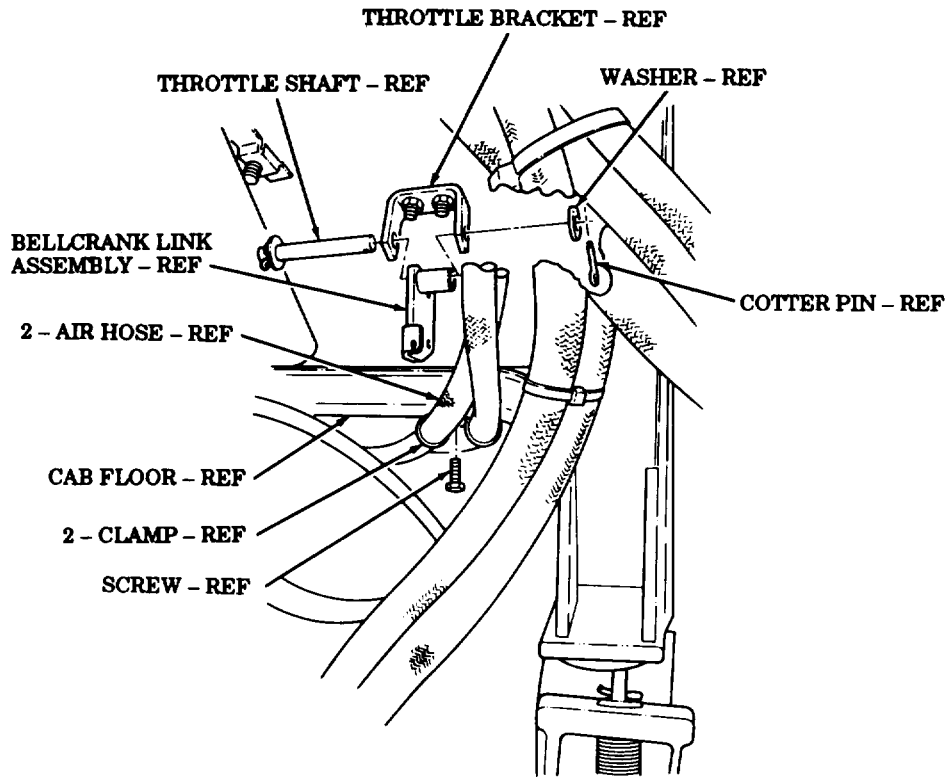

FIGURE 1
- (1) Set parking brake (TM 9-2320-272-10).
- (2) Drain air reservoirs (TM 9-2320-272-10).
- (3) Remove air cleaner, air cleaner tube hose, air intake pipe, and pump hose assembly (TM 9-2320-272-20).
- (4) Remove accelerator pedal pushrod, return spring, ball joint, and throttle cable from bellcrank link assembly (TM 9-2320-272-20). Retain washer from accelerator pedal pushrod for use in task c., step 2.
- (5) Remove cotter pin, washer, throttle shaft, and bellcrank link assembly from throttle bracket as shown in figure 1.
- (6) Remove screw, two clamps, and air hoses from cab floor as shown in figure 1.